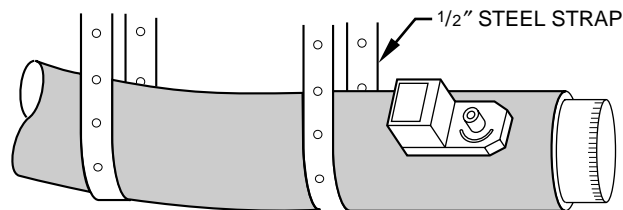

Fig. 6 — Insulated Round Flexible Duct Work
4. If dampers are applied in an unconditioned space, insulate damper using 1-1/2 inch to 2 inch insulation (See Fig. 6).